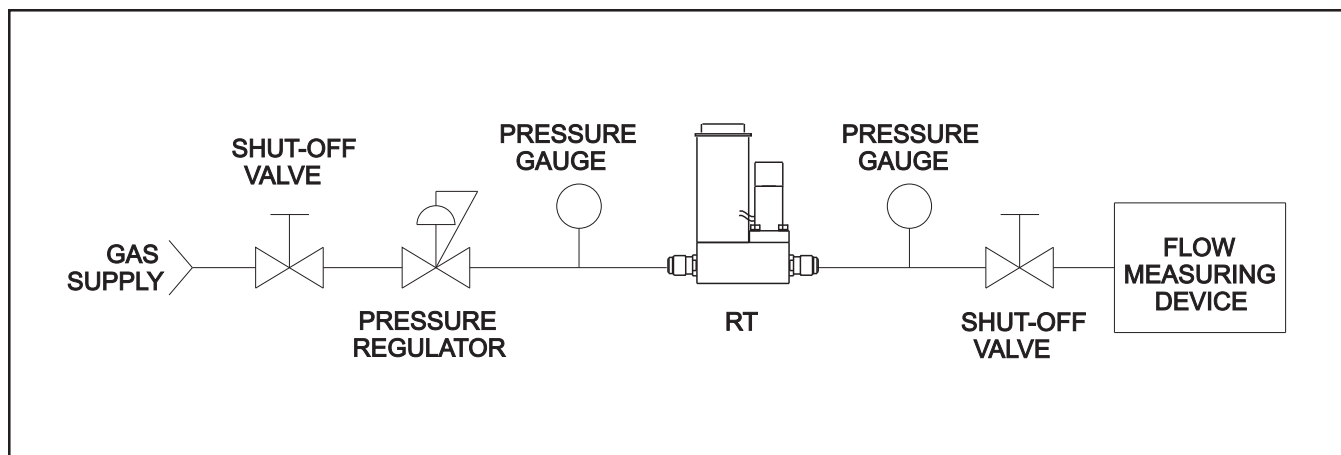

Figure 4-1 Bench Troubleshooting Circuit (Flow mode)
1. Insufficient pressure drop across the MFC (low or no pressure). If there is not enough pressure differential across the MFC, it is impossible for the MFC's valve orifice to pass the full scale flow rate. To check for this condition, compare the actual inlet/outlet pressure drop as read from pressure gauges with that specified on the order (shown in Figure 4-1). Increase the pressure if necessary.